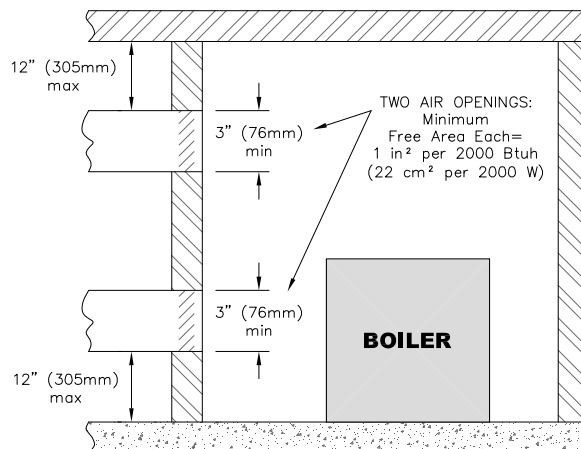

Figure 1.7: Air Openings – All Air from Outdoors through Horizontal Ducts
- ii. Where communicating with the outdoors through horizontal ducts, each opening shall have a minimum free area of 1 in² per 2000 Btu/hr (22 cm² per 2000 W) of total rated input for all appliances in the space. See Figure 1.7.